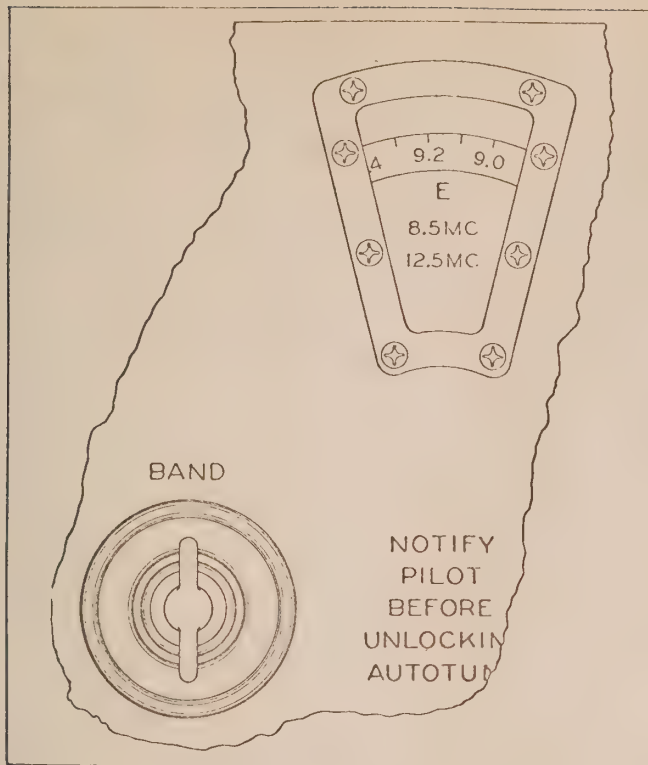

Figure 2-7. Band Switch Details
(3) BAND SWITCH. — The BAND switch, (figure 2-7,) is connected to the AUTOTUNE Singleturn Unit and is used to select the band of frequencies that contain the one upon which reception is desired. The frequency range of the receiver, 1500 to 18,500 kc, is divided into six bands. The frequency band may be manually selected, if the AUTOTUNE